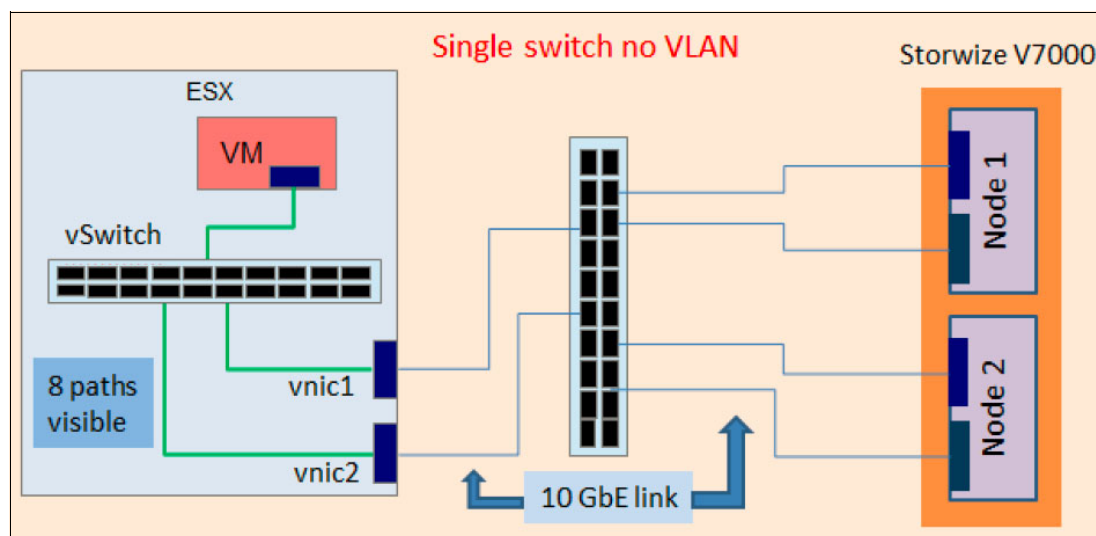

Figure 6-3 Single subnet configuration¹
Figure 6-3 shows the same subnet configuration, where only one switch connects the ESX with the IBM Storwize V7000 storage system. This configuration has the following challenges and impact on iSCSI performance:
- ▶ Network bottleneck (traffic storm): In Figure 6-3, a total of eight paths are visible. If massive reads are made from ESX, every path sends the data back, exhausting the network resources and potentially causing the switch to drop packets.
Figure 6-3 shows a single subnet configuration.